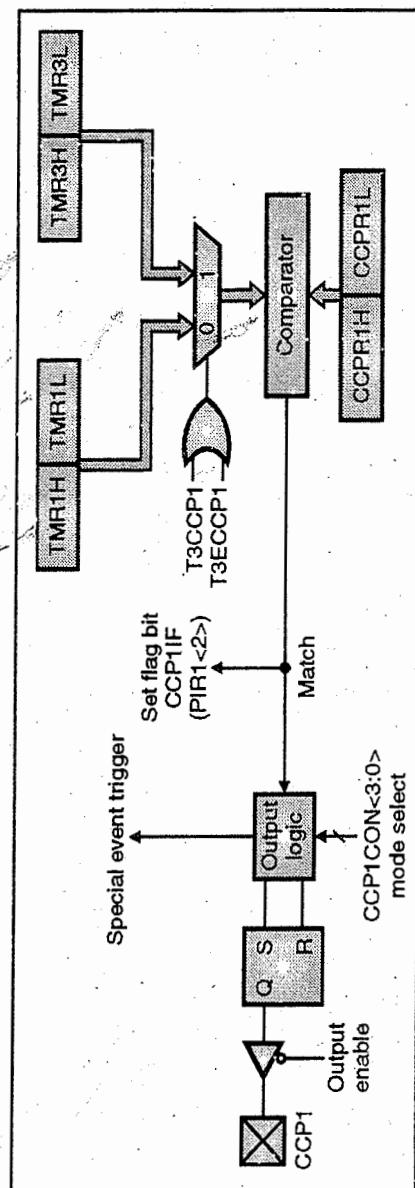

Fig. 11.4.1 : Compare Mode Block diagram
- Only special event trigger clears the timer. For all other actions we need to clear the Timer. Fig. 11.4.1 shows the block diagram in Compare mode.